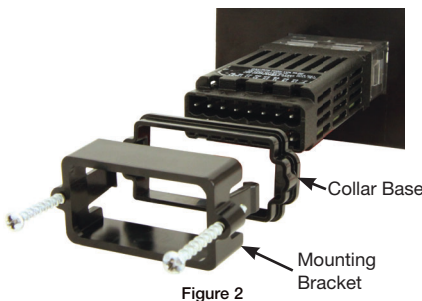

Figure 2
4. Orient the collar base so the flat side faces front and the screw openings are on the sides (see figure 2), then slide the base over the back of the controller.